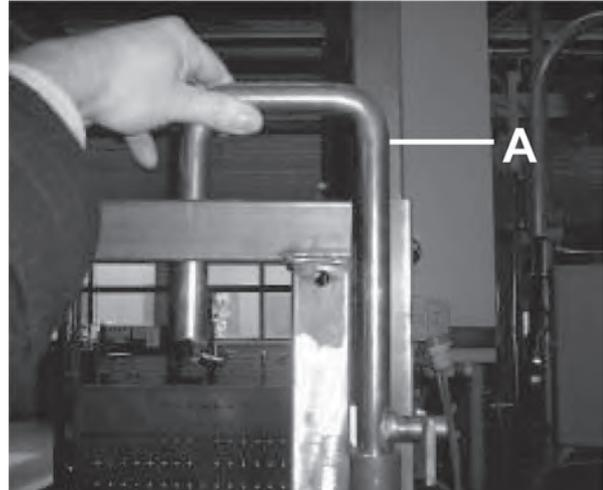

Fig. 7-13-1 Unlocking the sliding door
- Pull the lock upwards to unlock the sliding door (fig.7-13-1, A).